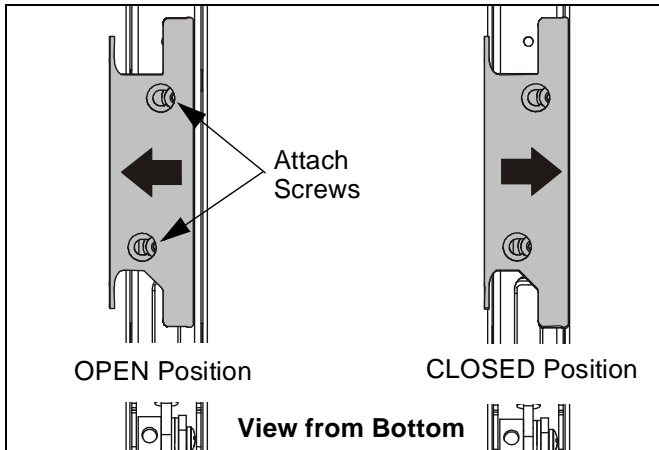
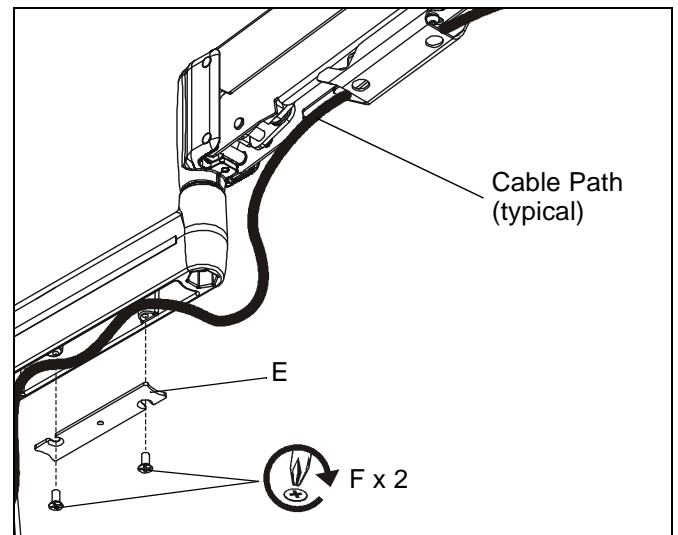

Figure 7
Figure 9
2. Open the cable management bracket by sliding it towards the edge of the arm (See Figure 7).
4. Close cable management bracket by sliding it back towards the centerline of the arm (See Figure 7).
**CAUTION:** Ensure that adequate cable slack exists for movement of display, and that cables will not be pinched by installation of cover (E) or screws (F).
5. Carefully insert cables in cavity located in lower portion of mount arm (See Figure 9).
6. Using Phillips screwdriver, install cover (E) with two screws (F).